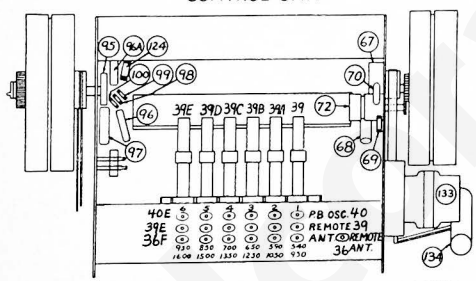

FIG. 4—LOCATIONS OF PARTS, TUNING UNIT
8. After all stations have been set up for push-button and remote control operation, press in the fifth (5) push-button and adjust the "ANT" compensator (36). See Fig. 4.